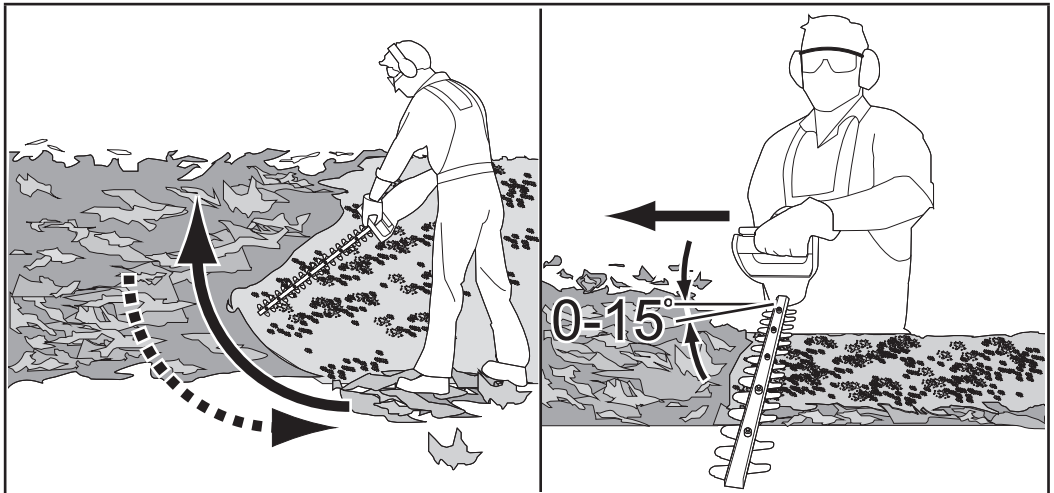

Fig. 6
- Always hold the machine firmly with both hands on front handle (1) and rear handle (4). Never operate this machine using only one hand.
- Do not rush and do not attempt to cut too much with one stroke of the blade (9).
- First cutting both sides from the bottom upwards to the top. This will prevent any of the cuttings falling into the path of the area still to be cut (Fig. 6).
- After cutting the sides proceed to the top. Try to keep the blade (9) angled at approximately 15° to the cutting surface (Fig. 6).
- When cutting wide hedges with the cutting area in sight move the blade (9) slightly through the cutting surface in a sweeping motion following the shape of the hedge or shrub. A slight tilt downwards of the cutting blade in the direction of motion is recommended for optimum cutting performance (Fig. 6).